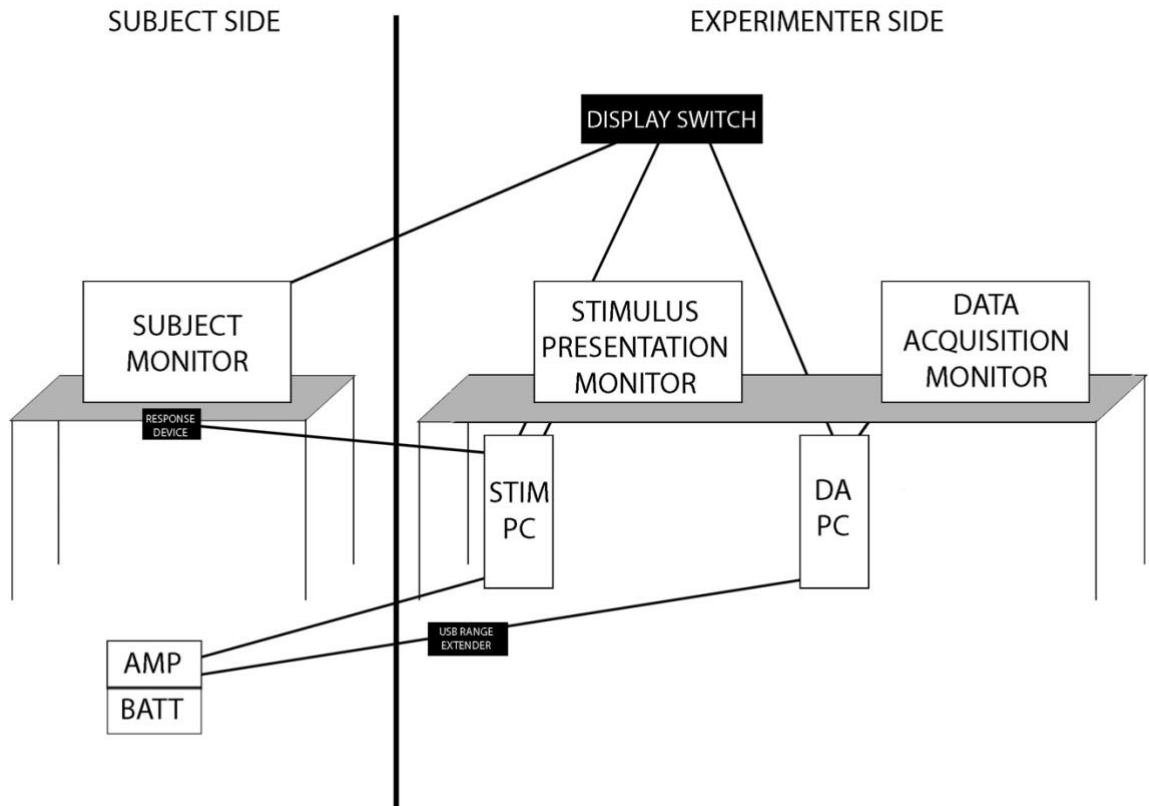

Figure 13. Depiction of the computer, monitor, and amplifier configurations and connections.
2. **Optimal equipment set up:** On the experimenter side of the testing space, there should be one PC and monitor for stimulus presentation and one PC and monitor for data acquisition. On the subject side of the testing space, an identical monitor should be placed, connected to both the stimulus presentation computer and the data acquisition computer through a DisplayPort switch (see Figure 13). This allows the subject monitor to display either the task (when switched to the stimulus presentation PC) or the EEG (when switched to the data acquisition PC). See Figure 13 for a complete diagram. The amplifier and battery should be placed directly behind the subject (see Figure 7 and Figure 12a).